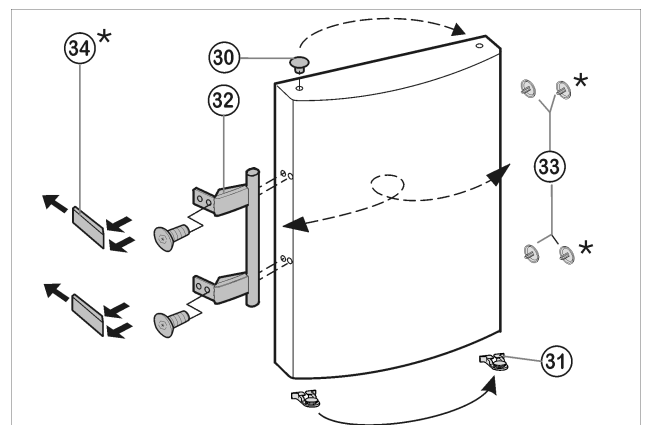

Fig. 8
- ▶ Lift the stopper Fig. 8 (30) out of the door bearing bush and transfer it.
- ▶ Detach door handle *Fig. 8 (32)*, stopper *Fig. 8 (33)* and pressure plates *Fig. 8 (34)* and transfer to the opposite side.